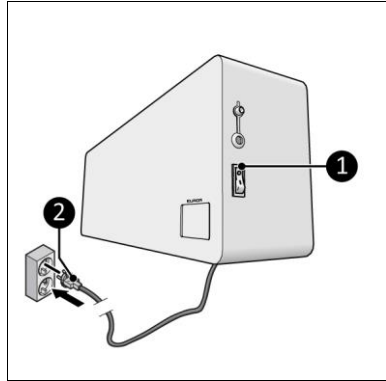

Figure 10
1. Make sure the ON/OFF switch is in the OFF position (Figure 10, pos. 1).
2. Put the power plug (Figure 10, pos. 2) into an earthed wall socket that is easily accessible. Use an earthed wall socket with a minimum power of 2000 Watt.